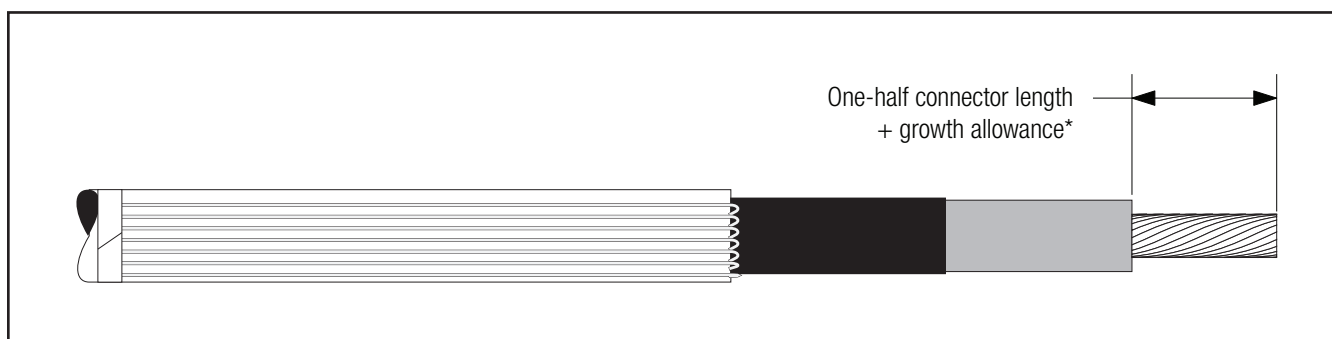

Figure 6
3.3 If using a crimp type connector, remove cable insulation for 1/2 connector length plus an allowance* for increases in connector length due to crimping. Insulation removal length shall not exceed 4 1/8" (105 mm) from conductor end. **Do not install connector now** (Figure 6).